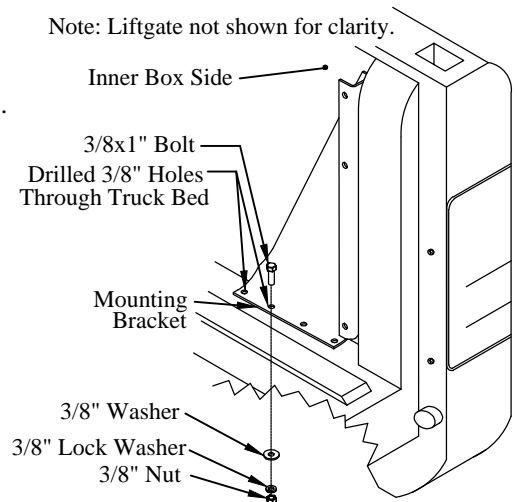

Figure 10: Mounting bracket.
Choose two of the four holes provided with no obstructions on the underside (Figure 10).
- (2) 3/8"x1" hex head bolts on the top-side (Figure 10).
- (2) washers, (2) lock washers, and (2) hex nuts on the under-side (Figure 10).